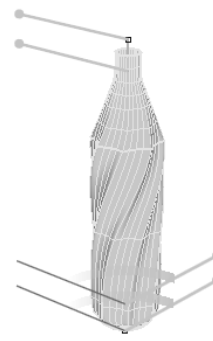

Figure 11-112 Twisted bottle with manipulator handles
6. Choose the **Accept Axis Curve** button; the twisted bottle with four manipulator handles is displayed, as shown in Figure 11-112.